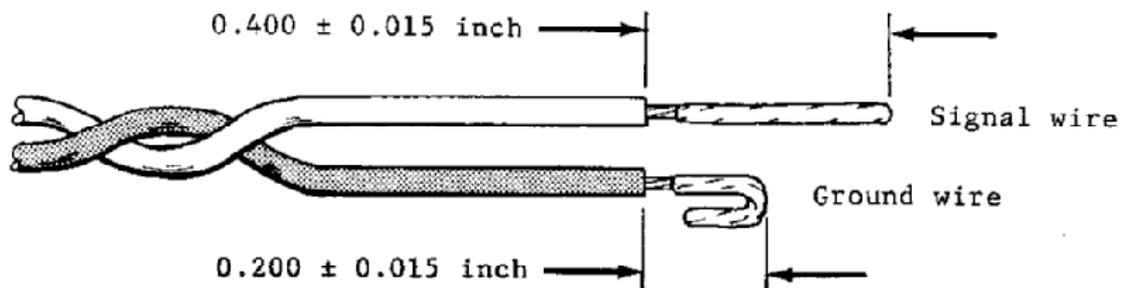

Figure 5-6. Bending Ground Wire of AWG 28 and 30 Wires
7. (AWG 28 and 30 only) Bend the ground wire as shown in Figure 5-6.